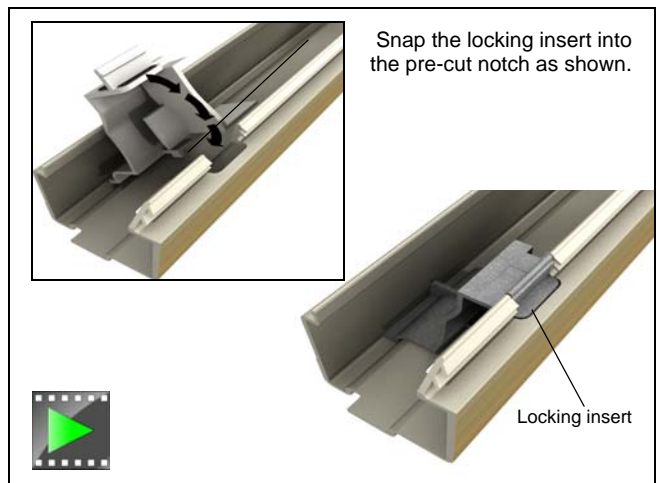

Figure 7
7. Snap insert into notch. See figure 7.